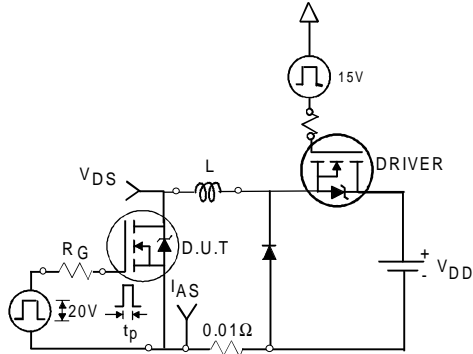

Fig 12a. Unclamped Inductive Test Circuit
| I_{AR} | Avalanche Current | See Fig.12a, 12b, 15, 16 | A |
- ③ $I_{SD} \leq 101A$, $di/dt \leq 210A/\mu s$, $V_{DD} \leq V_{(BR)DSS}$, $T_J \leq 175^\circ\text{C}$
- ④ Pulse width $\leq 400\mu s$; duty cycle $\leq 2\%$.
- ⑤ $C_{oss \text{ eff.}}$ is a fixed capacitance that gives the same charging time as C_{oss} while V_{DS} is rising from 0 to 80% V_{DSS} .
- ⑥ Calculated continuous current based on maximum allowable junction temperature. Package limitation current is 75A.
- ⑦ Limited by T_{Jmax} , see Fig.12a, 12b, 15, 16 for typical repetitive avalanche performance.
3. Equation below based on circuit and waveforms shown in Figures 12a, 12b.